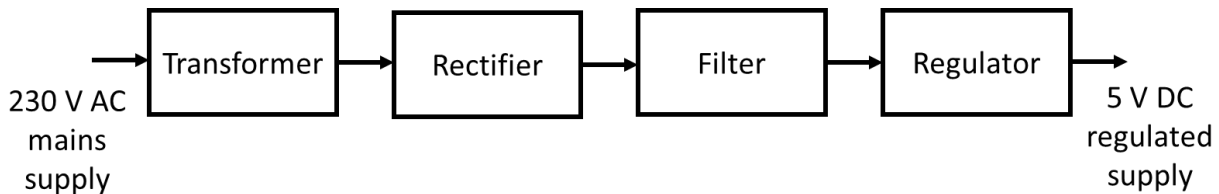

Figure 1 – Block diagram of system
A block diagram, schematic diagram and specification detailing the power conversion system's layout and expected operation are shown in Figures 1 and 2 below.
- access to relevant information sources (digital or hard copy), including figures 1 and 2
- access to relevant information sources (digital or hard copy), including Figures 1 and 2